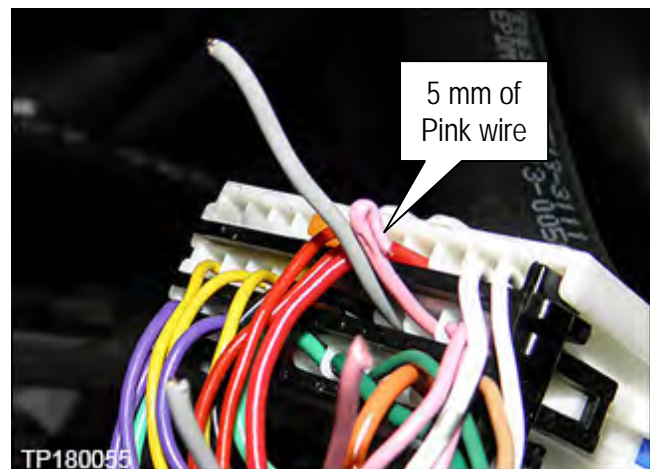

Figure 29
34. Fold over approximately 5 mm of the pink wire that is extending from Joint connector – E01 as shown in Figure 29.